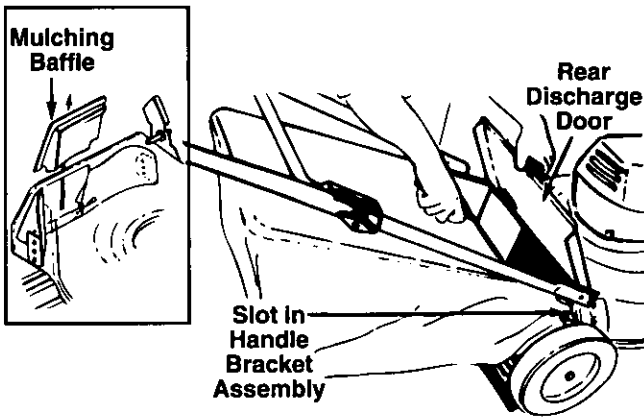

FIGURE 3.
- ← 1. Lift the rear discharge door on the mower. Remove the mulching baffle. See figure 3, inset.
2. Place the hooks on the grass catcher into the slots in the handle bracket assemblies. See figure 3. Release the rear discharge door.